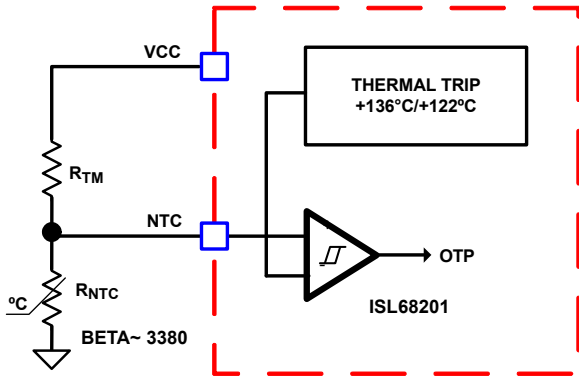
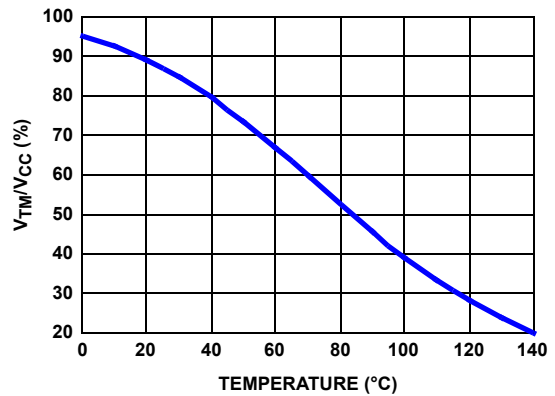

FIGURE 16. BLOCK DIAGRAM OF THERMAL MONITORING AND PROTECTION
FIGURE 18. THE RATIO OF TM VOLTAGE TO NTC TEMPERATURE WITH RECOMMENDED PART
The thermal monitoring function block diagram is shown in Figure 16 on page 18. One NTC resistor should be placed close to the respective power stage of the voltage regulator VR to sense the operational temperature, and pull-up resistors are needed to form the voltage dividers for the NTC pin. As the temperature of the power stage increases, the resistance of the NTC reduces, resulting in the reduced voltage at the NTC pin. Figure 18 on page 18 shows the TM voltage over the temperature for a typical design with a recommended 10kΩ NTC (P/N: NCP15XH103J03RC from Murata, $\beta = 3380$) and 1.54kΩ resistor R_{TM} . It is recommended to use those resistors for accurate temperature compensation because the internal thermal digital code is developed based on these two components. If a different value is used, the temperature coefficient must be close to 3380 and R_{TM} must be scaled accordingly. For instance, if $NTC = 20k\Omega$ ($\beta = 3380$), then R_{TM} should be $20k\Omega / 10k\Omega * 1.54k\Omega = 3.08k\Omega$.
Based on the V_{CC} voltage, the ISL68201 converts the NTC pin voltage to a digital signal for temperature compensation. With the nonlinear A/D converter of the ISL68201, the NTC digital signal is linearly proportional to the NTC temperature. For accurate temperature compensation, the ratio of the NTC voltage to the NTC temperature of the practical design should be similar to that in Figure 18.
1. Properly choose the voltage divider for the NTC pin to match the NTC voltage vs temperature curve with the recommended curve in Figure 18 on page 18.
As shown in Figure 16 on page 18, there is a comparator with hysteresis to compare the NTC pin voltage to the threshold set. When the NTC pin voltage is lower than 22.31% of the V_{CC} voltage (typically +136 °C), it triggers Over-Temperature Protection (OTP) and shuts down the ISL68201. When the NTC pin voltage is above 27.79% of the V_{CC} voltage (typically +122.4 °C), the ISL68201 resumes normal operation. When an OTP fault is declared, the controller forces the LGATE and UGATE gate-driver outputs low.